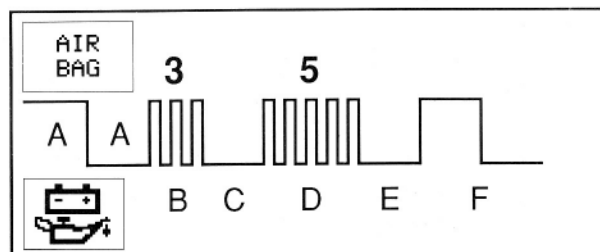

Fig. 33 Fault code 3-5-0-0
- 1 Using a suitable switch, make a switched ground (earth) lead as shown in fig. 33.
To illustrate this consider code 3-5-0-0 (see Fig. 33).